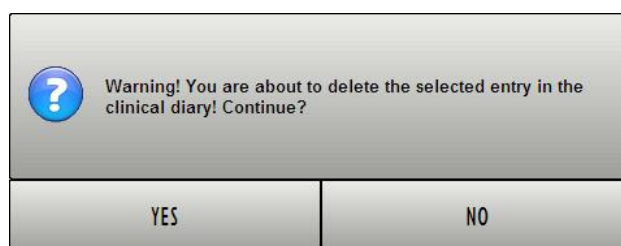

Fig 81
- Click the **Delete** button. User confirmation is required (Fig 81).